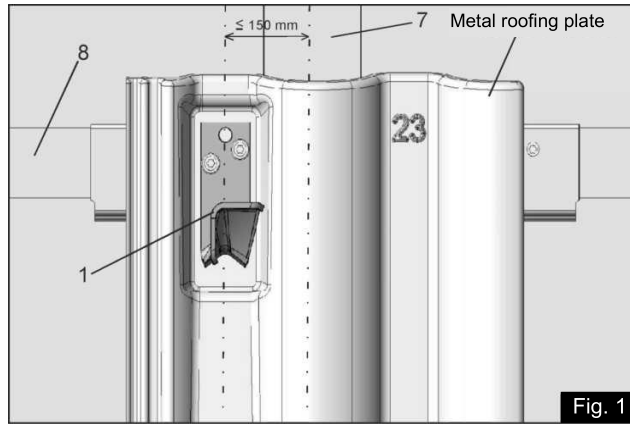
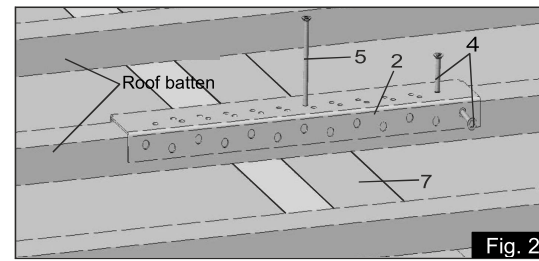

Fig. 1
Fig. 2
- (1) Holding element
- (2) Reinforcement rail
- (3) Support element
- (4) Mounting screw 4 x 35 mm
- (5) Uni-Screw 5.0 x 120 mm
- (6) Uni-Screw 5.5 x 60 mm with poly washer
- (7) Rafter
- (8) Min. roof batten 3/5 cm, max. roof batten 4/6 cm
- Determine the position of the roof-mounted module bracket with metal roofing plate so that the distance between the holding element (1) and the middle of the rafter does not exceed 150 mm. (Fig. 1)
- Place the reinforcement rail (2) on the roof batten centered on the rafter.
- Slide the reinforcement rail (2) horizontally until the slotted hole of the support element (3) lines up with the hole of the reinforcement rail (2). Secure the reinforcement rail (2) with a screw (4) in the fall line. (screw (4) can also be screwed in from above). (Fig. 2)
- Remove the roof-mounted module bracket with metal roofing plate again and screw the reinforcement rail (2) onto the rafter with screw (5). (Fig. 2)